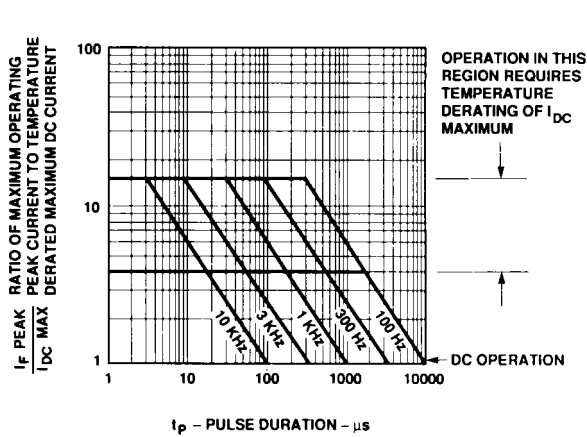

Figure 1. Maximum Allowed Peak Current vs. Pulse Duration - AlGaAs Red.
1. See Figure 1 to establish pulsed conditions.